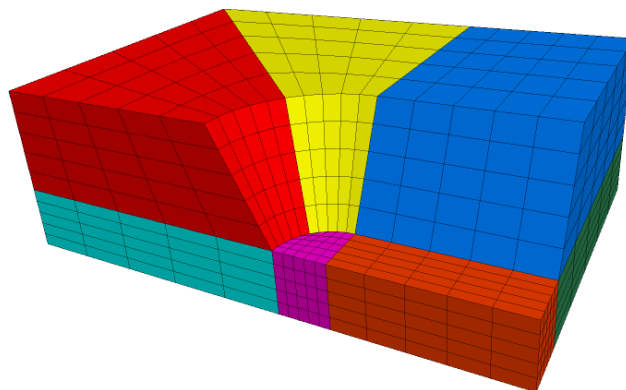

Figure 88: *BlockRanger* run with a minimum edge resolution of 5 instead of the default value of 3.
6. Rerunning with **MaxEdgeLength** 100.0 and **MinEdgeResolution** set to 5 results in the grid shown in Figure 88.